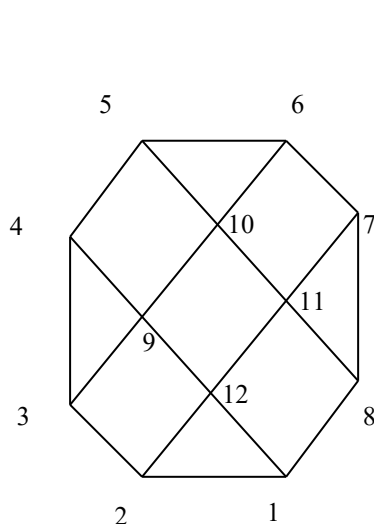
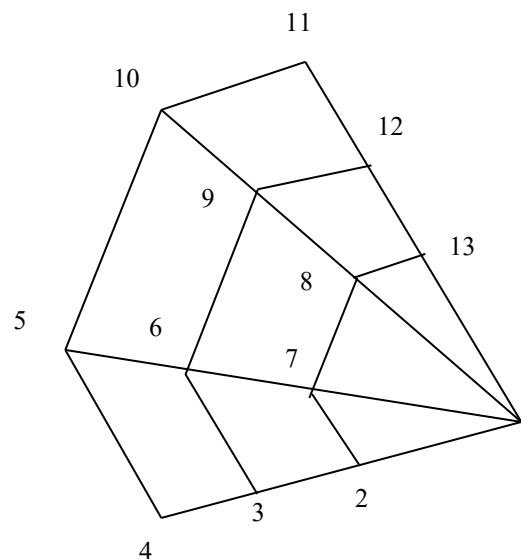

Figure 7
Figure 8
- (4). (a). Two plates shown in **Figure 7** and **Figure 8**, shall be analysed as a plane strain problem. Both plates are divided into 9 elements. Each node has been labelled accordingly. Calculate the bandwidth, $B = (R+1)$ NDOF for both plates assuming two degrees of freedom at each node.